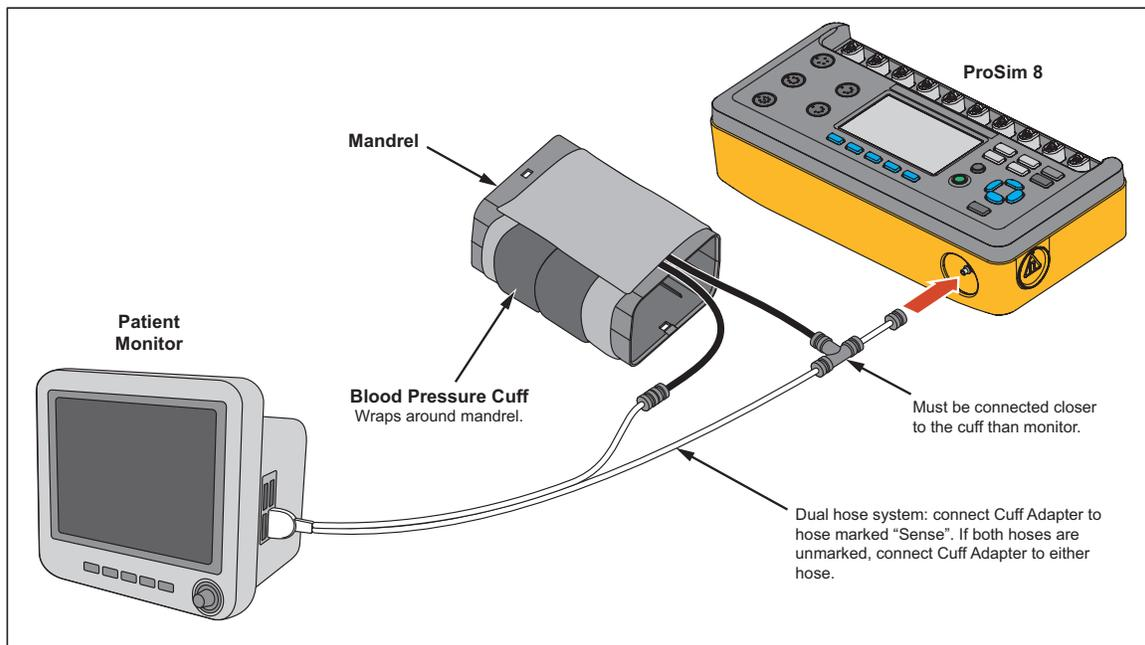

Figure 35. Pressure Leak Test Connections
1. Connect the NIBP monitor to the Product as shown in Figure 35.
Connect the Product to the monitor and cuff as shown in Figure 35.